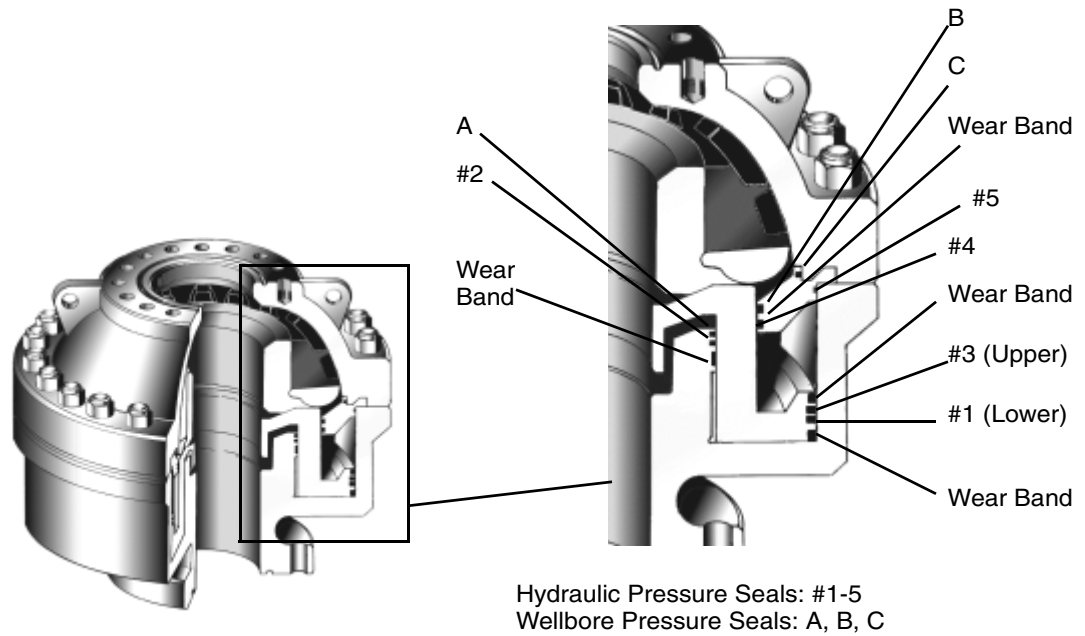
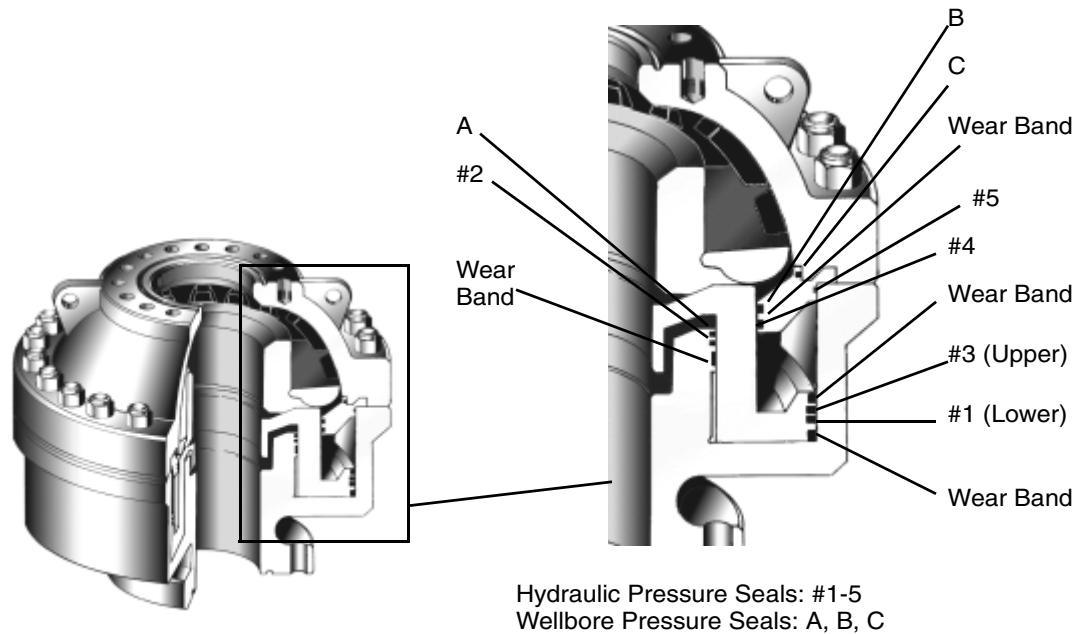

Figure 4-6. Seal Positions - 10,000 psi (690 bar) Model
Figure 4-10. Seal Positions-1,000 psi (69 bar) Model
The yearly inspection should consist of checking the general condition of all exposed areas. Only the adapter ring top seal C (9) is disturbed when the upper housing is removed. This seal should be inspected and replaced, if required. See Figure 4-6 through Figure 4-10 for position of seal C.